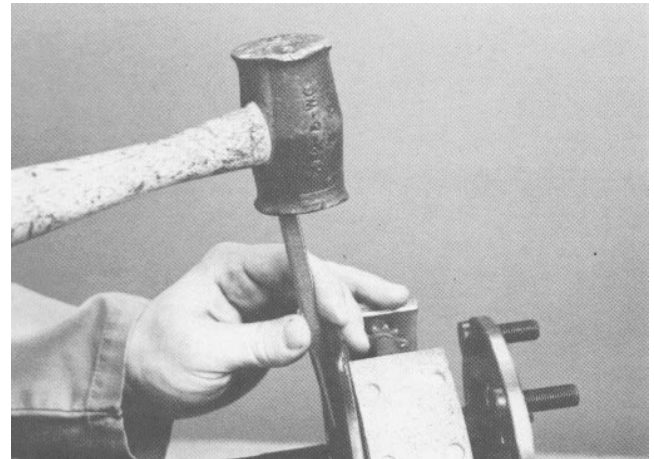

Figure 9
5. Center punch the outside of the retaining ring (Fig. 9).